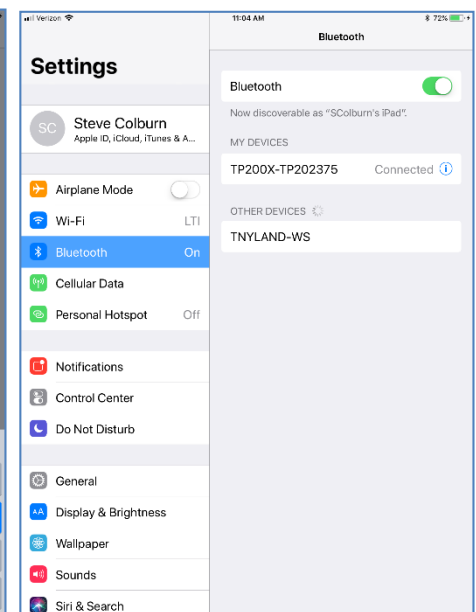

Figure 3
3. Choose to pair with it and enter the passcode "1234" for the 200X; or "1111" for the TruPulse 200/360/R (Figure 3)